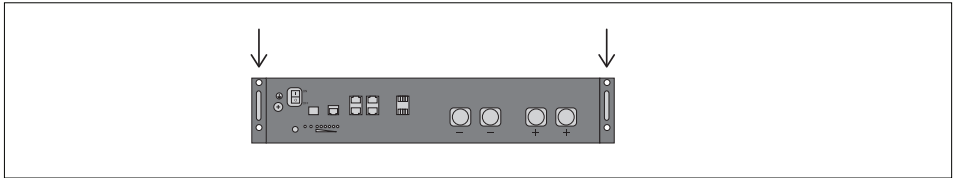
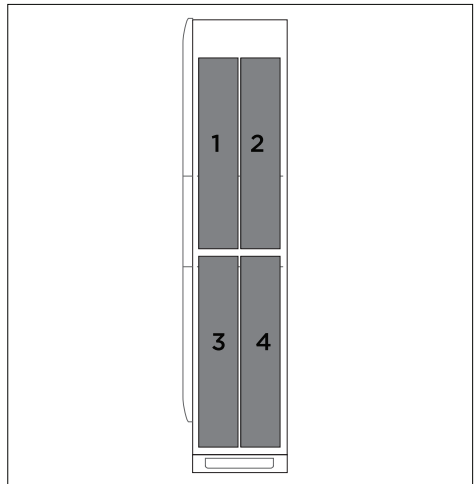

Figure 6: Pylontech US2000 battery front handles.
Figure 8 : Inside view of BCL0096 with four Pylontech US2000 batteries.
1. Insert the batteries onto the shelves one at a time by inserting the battery pack bottom first into the cabinet. Please fill the cabinet from bottom to top, i.e. insert battery 4 first, then 3, 2 and finally 1 (see figure 8). If using the Pylon US2000 batteries, you will need to remove the handles from the batteries as shown in Figure 6.